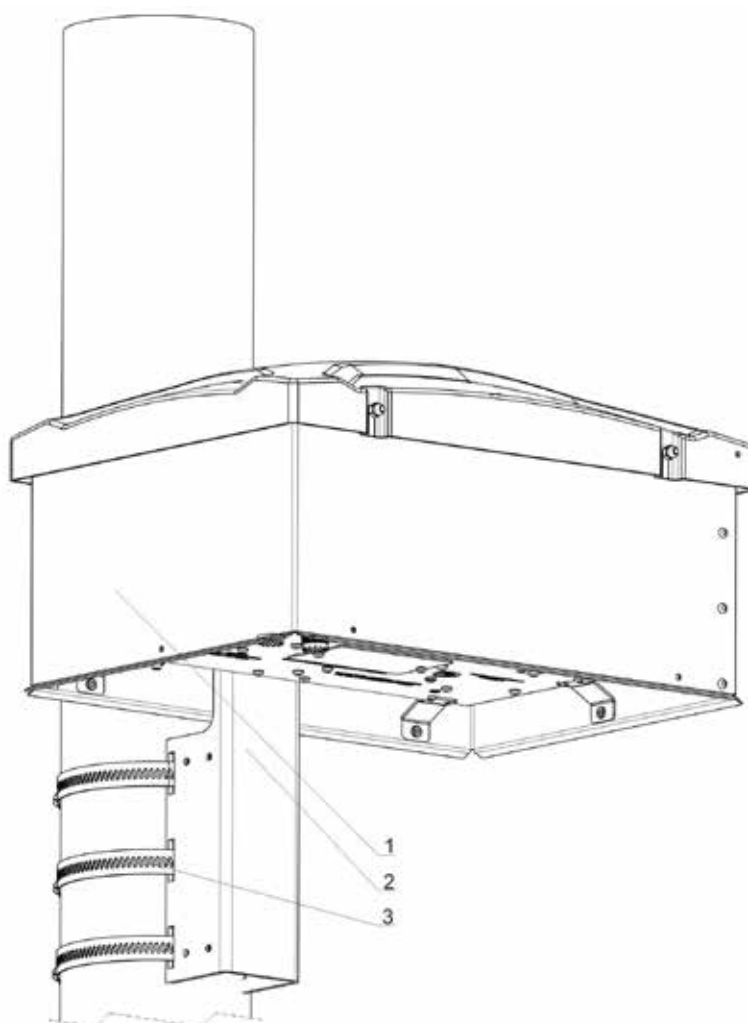

Fig. 2-7. Securing the ATU to a mast
The whole assembly – figure 2-7 (1 & 2) is then secured to the mast with the connectors facing down using three hose clamps (3). Always secure any loose cables, guy wires or any other object that might fall on or hit the tuner assembly.